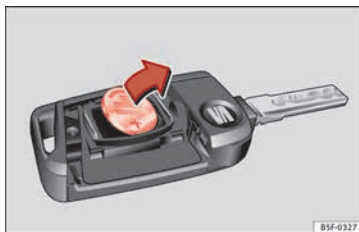

Fig. 134 Vehicle key: removing the battery
- Extract the battery from the compartment using a suitable thin object » **Fig. 134**.
- Place the new battery in the compartment as shown » **Fig. 134**, pressing in the opposite direction to that shown by the arrow » **❷**.